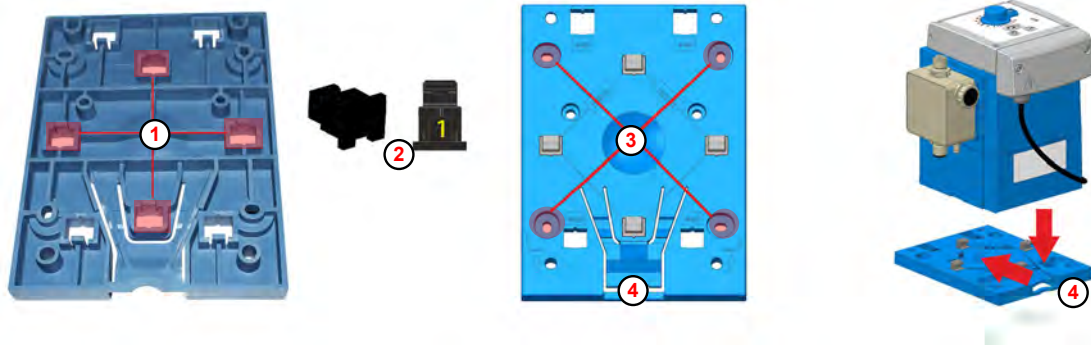

Fig. 4: Preparations for table mounting
On the underside of the mounting plate, the boreholes for countertop mounting (Fig. 4 , ③) are marked with a 1. Only fixing elements ② with the number 1 may be used for table mounting.
2. Push the fixing elements from the rear ② into the four openings marked 1 ① and allow them to engage.
4. Using the mounting plate as a template, mark the required boreholes ③ with a sharp pencil.